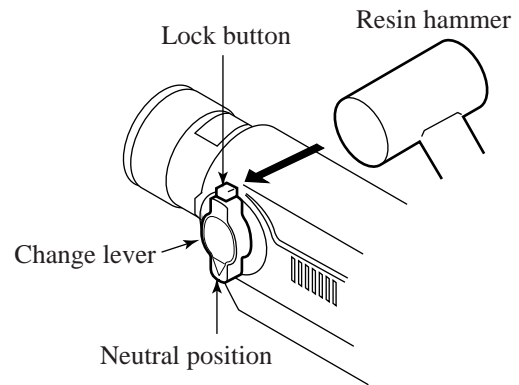

Figure 1
- (7) Disassembling tool holders -----(Page 9 of 14)
- (8) Assembling the tool holder A and B -----(Page 9 of 14)
- (9) Taking out Cylinder 40 -----(Page 9 of 14)
- (10) Assembling Piston, Rod and Crank shaft -----(Page 10 of 14)
- (11) Assembling Fluoride ring 28 on Impact bolt ----- (Page 10 of 14)
- (12) Assembling several parts in Crank housing ----- (Page 11 of 14)
- (13) Inserting Tool holders -----(Page 11 of 14)
- (14) Assembling Torque limiter complete -----(Page 12 of 14)
- (15) Lubrication -----(Page 13 of 14)
- a. Set the change lever at neutral position, and slightly hit the back side of the lock button using the resin hammer to remove it.(See the figure 1.)